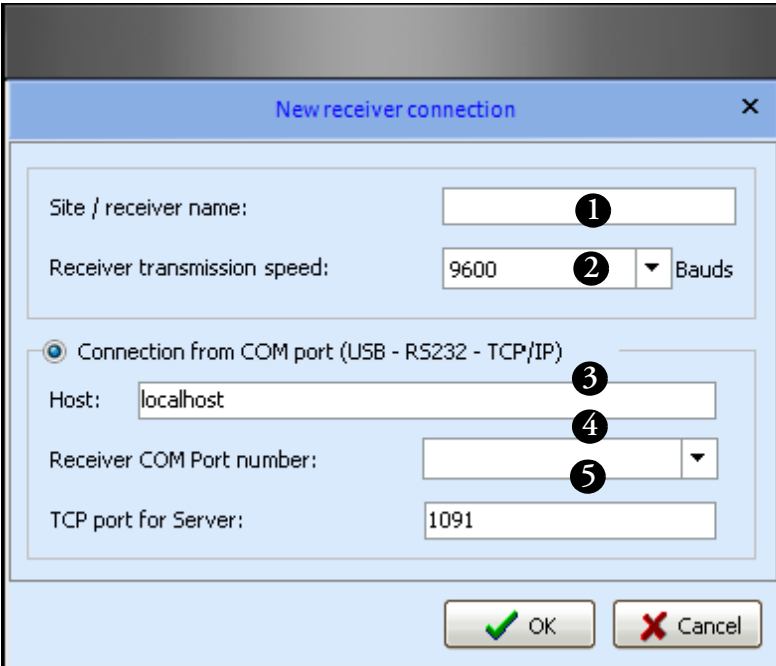

Figure 37. New receiver configuration
4. Enter the name (maximum of 8 characters) for the new receiver (#1 in Figure 37).